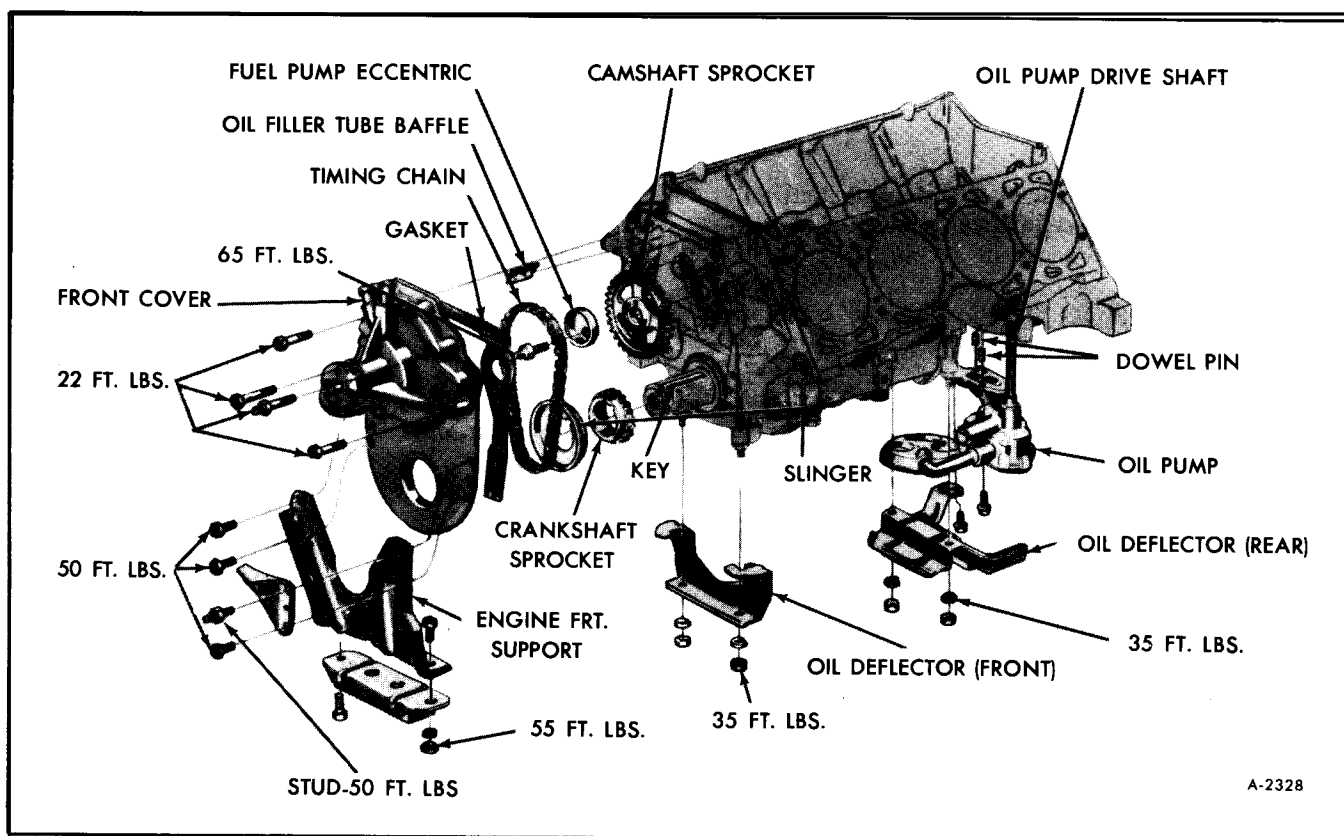

Figure 56—Engine Front Cover Exploded View
11. Remove front cover to block attaching bolts and remove front cover, timing indicator and water pump assembly (See figure 56).